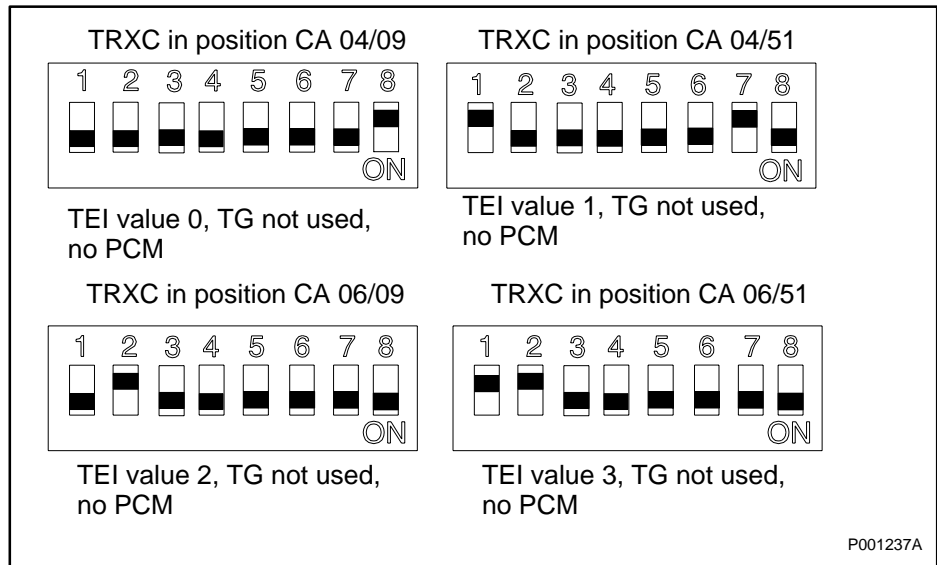
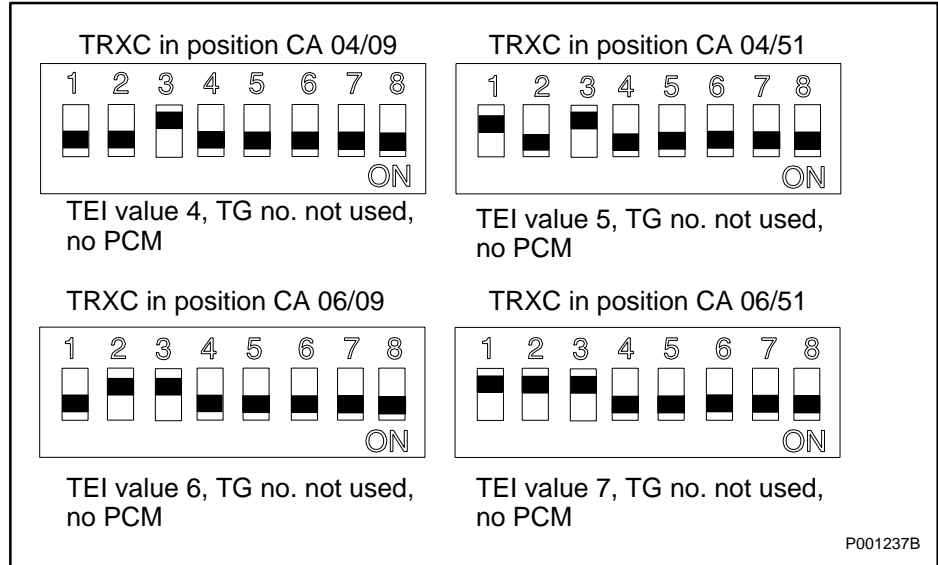
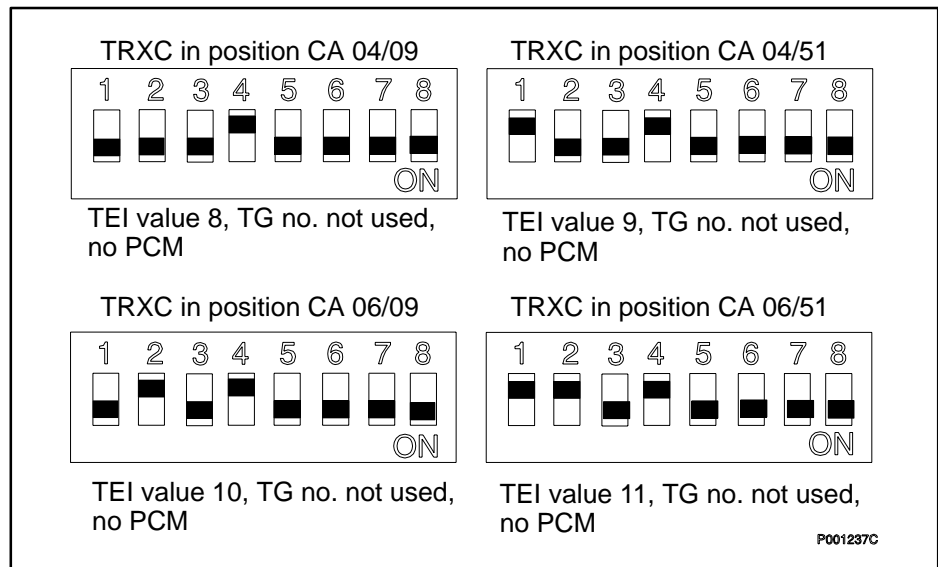
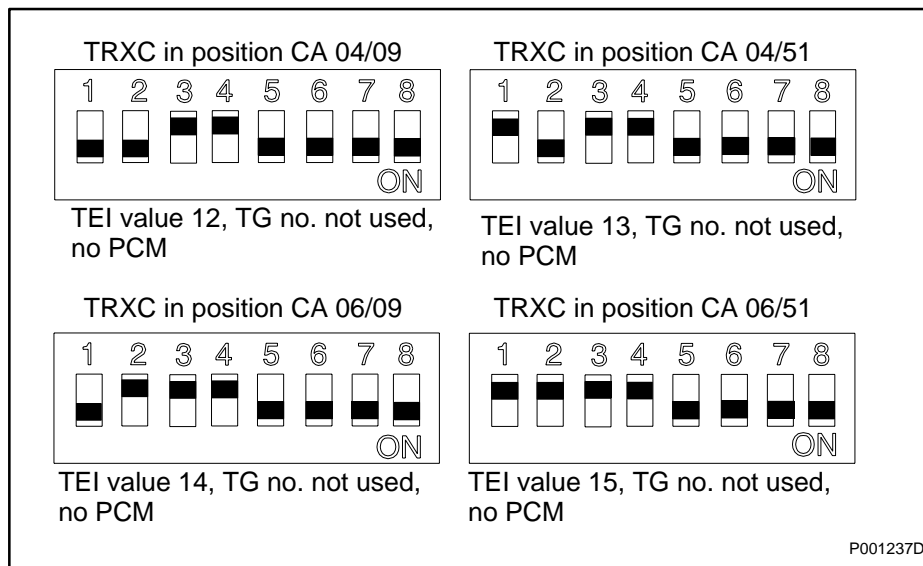

Figure 20 Strapping the TRXD magazine, master cabinet
Figure 21 Strapping the TRXD magazine, extension cabinet 1.
Figure 22 Strapping the TRXD magazine, extension cabinet 2.
Figure 23 Strapping the TRXD magazine, extension cabinet 3.
To maintain a uniform strapping of the TEI value within each Transceiver Group (TG), switch number 1-4 shall be set according to figure 20, figure 21, figure 22, figure 23 .
The Transceiver Group number points out a specific TG, which is defined as the set of equipment associated with radio transmission on one common transmitter antenna. When this function is not used, set switches 5 and 6 according to figure 20.
To maintain a uniform strapping of the PCM reference within each TG, switch number 7 and 8 shall be set according to figure 20 and figure 21.